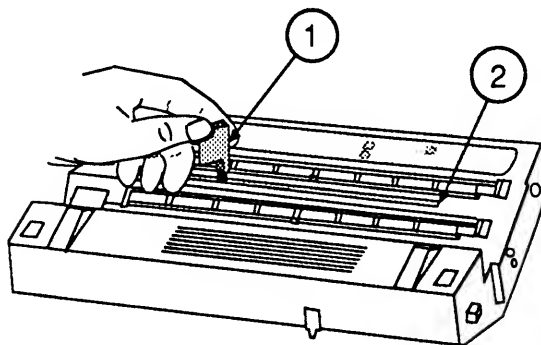

FIGURE 13
19. **If a new toner cartridge is not being installed at this time**, clean the primary corona wire by inserting the cleaner brush (Figure 13, #1) into the long slot (Figure 13, #2) of the toner cartridge (between the two light-blocking shutters) and moving it back and forth in the slot.